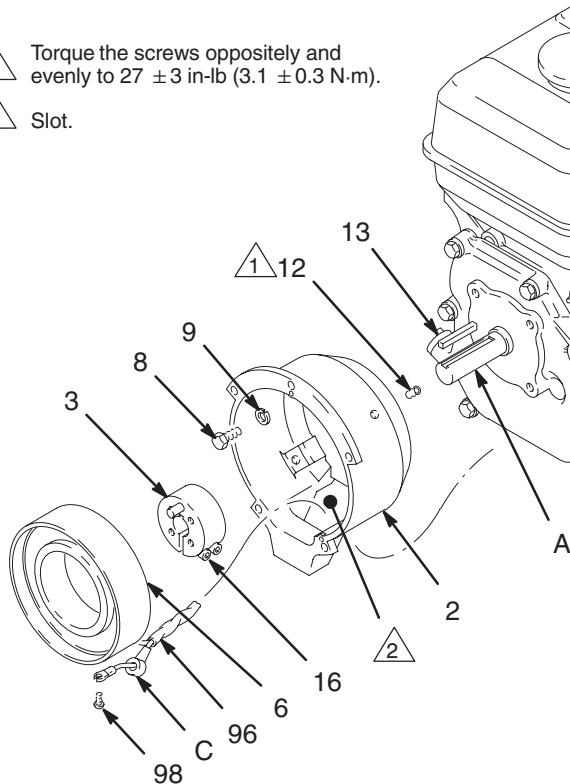

Fig. 18
1. Install the **clutch housing (2)**, capscrews (8) and lockwashers (9) on the engine. See Fig. 18.
2. Install the engine shaft **key (13)**. See Fig. 18.
4. Connect the wires of the wire harness (96) to the screws (98) in both places on the field (wires can be attached to either connection). Pull the plastic caps (C) up and snap them over the screws. Install the **field (6)** in the clutch housing (2). Work the wire harness through the slot in the clutch housing. With the setscrew holes in the field and the clutch housing (2) aligned, tighten the setscrews (12) oppositely and evenly, to 27 ± 3 in-lb (3.1 ± 0.3 N·m). See Fig. 18.